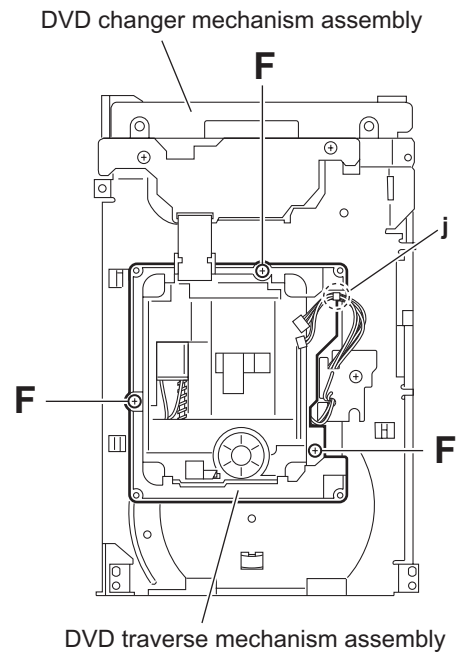

Fig.11
- (1) From the reverse side of the motor board, unsolder the four soldered sections **i** on the motor board.
- (2) From the forward side of the motor board, remove the motors.
3.3.6 Removing the DVD traverse mechanism assembly (See Fig.11)